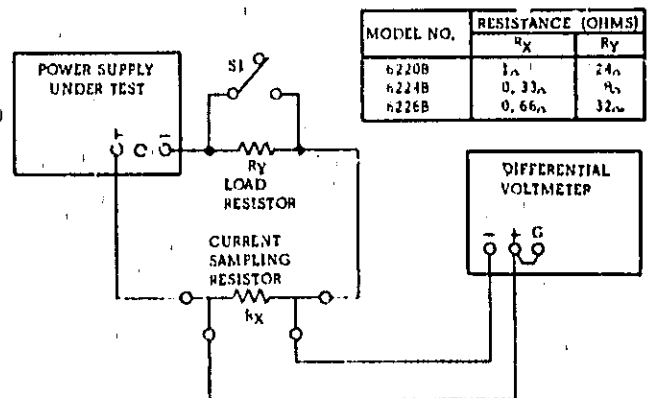

Figure 5-4. Output Current, Test Setup
- a. Connect test setup as shown in Figure 5-4 leaving switch S1 open.